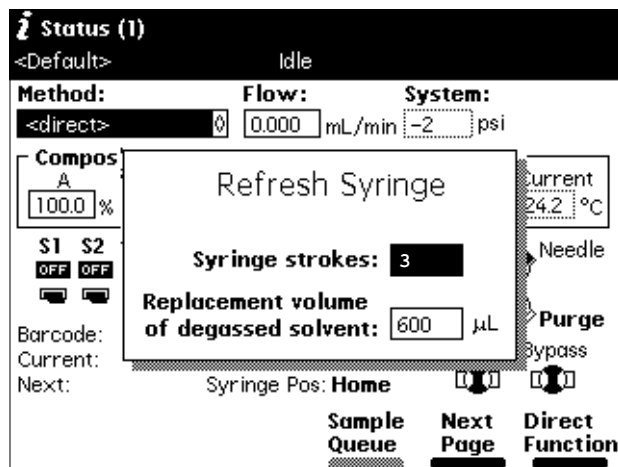

Figure 4-10 Refresh Syringe Dialog Box
3. Select the **Refresh Syringe** option, then press **Enter**. The Refresh Syringe dialog box appears (Figure 4-10).